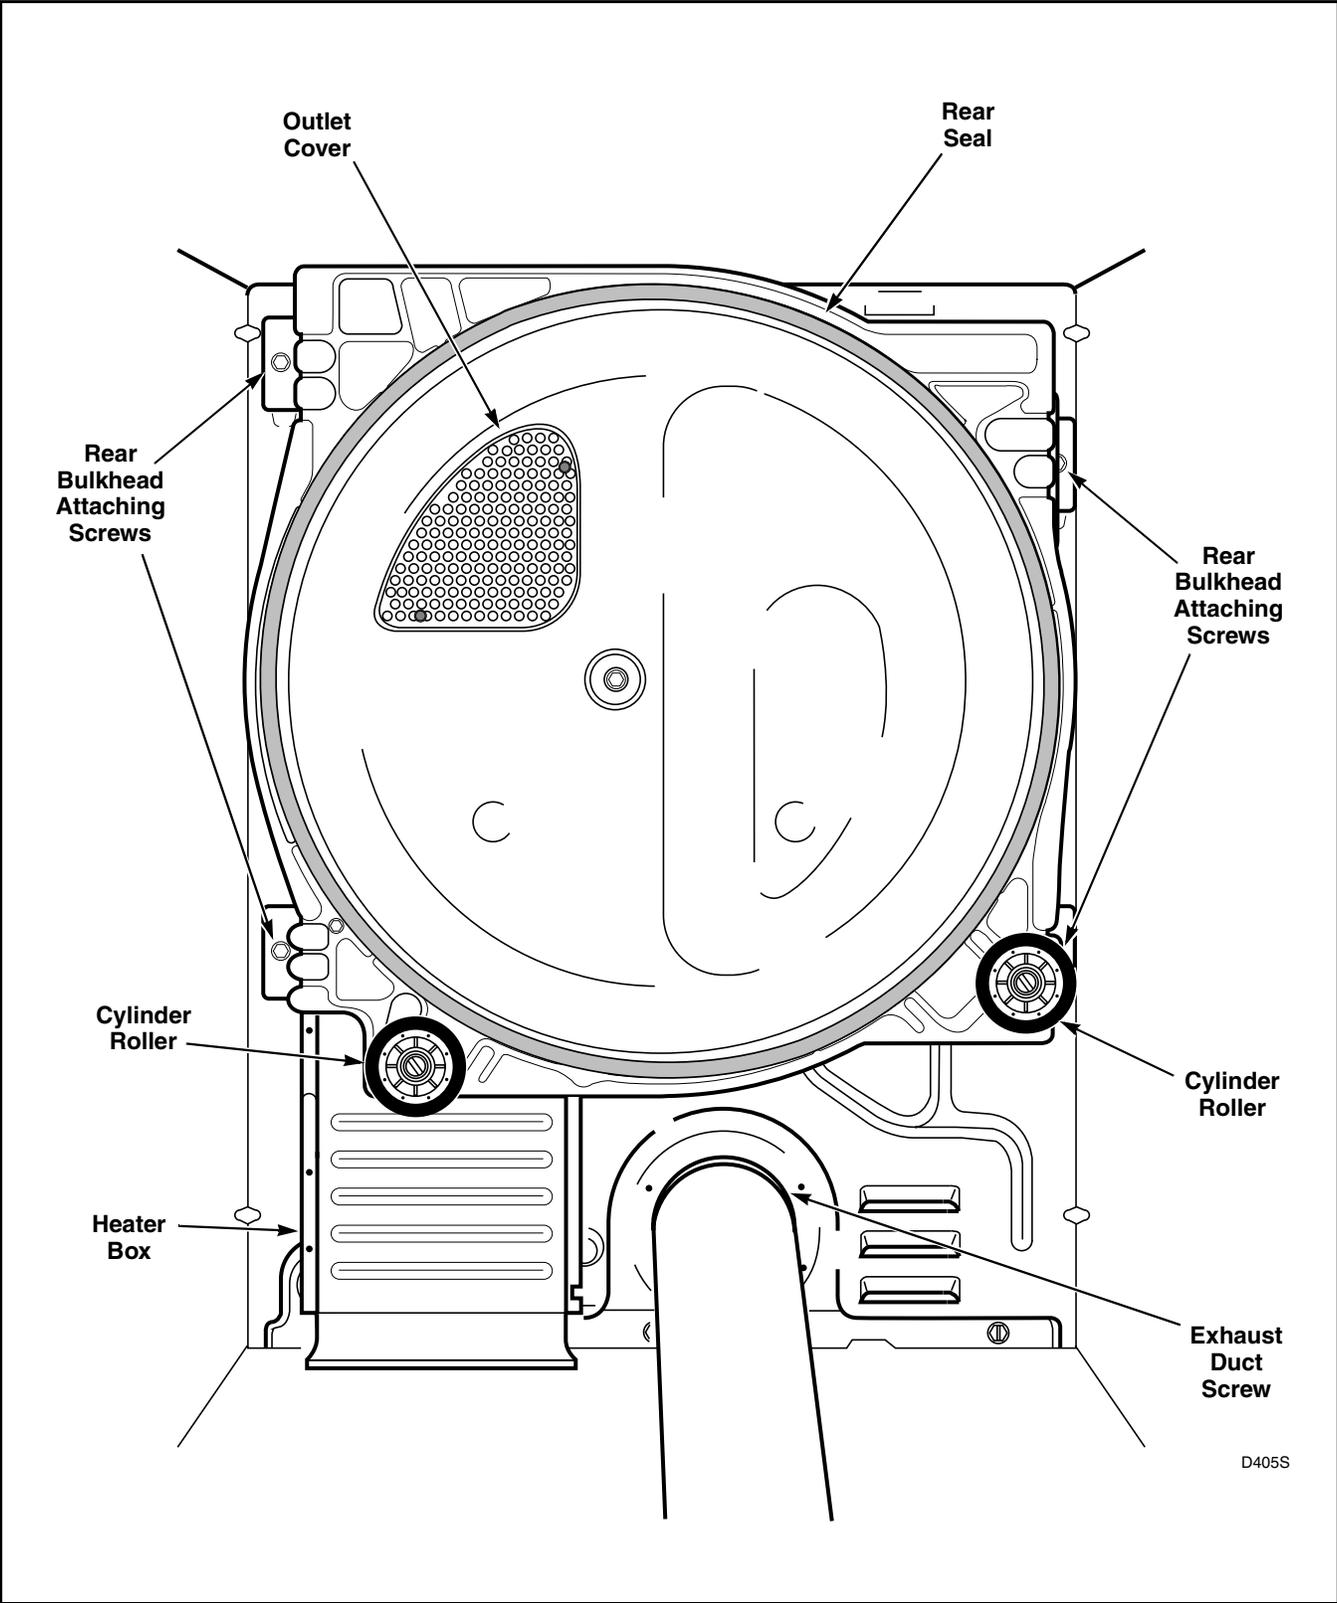

Figure 36
- j. Pull rear cylinder seal from flanged edge of bulkhead. Refer to *Figure 36*.
- Open door and remove two screws holding outlet cover to rear bulkhead. Refer to *Figure 36*.
- k. While supporting bulkhead, remove the four screws holding rear bulkhead to dryer cabinet, then lift complete assembly out of dryer. Refer to *Figure 36*.